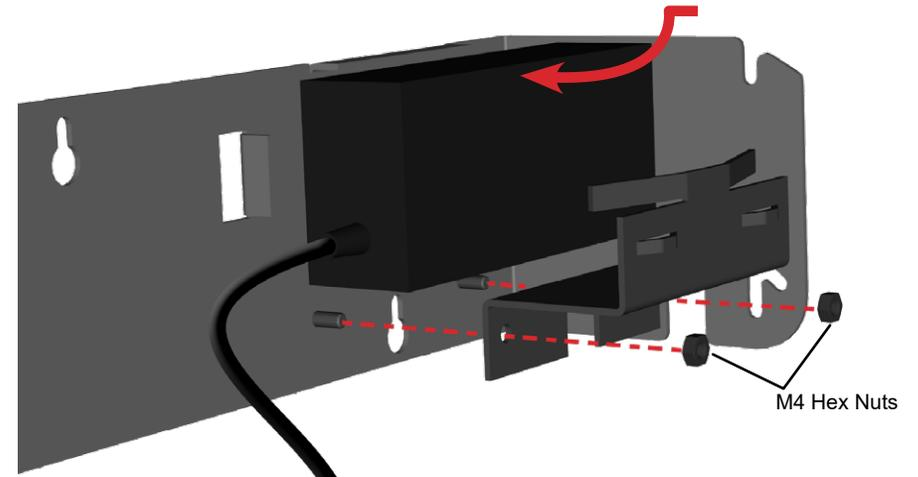

Figure 8a. Attach bracket and power supply
3. Attach the power supply bracket to the wall mount bracket with hex nuts on the threaded studs loosely as shown. Insert the power supply with power cord outlet located against the side hole provided for power cord access and tighten the hardware (Figures 8a & 8b).